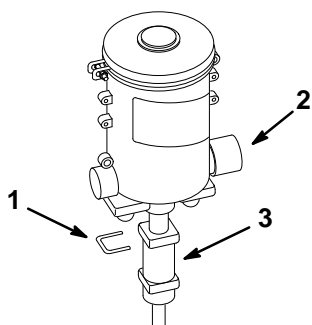

Figure 16
- A. Remove the anti-rotation lock pin (Fig. 16).
- B. Rotate the ratio adjuster sleeve up or down until the top of the sleeve aligns with the line under the desired mixing ratio (Fig. 16).
- C. Align the holes in the ratio adjuster sleeve with the flats on the cylinder, then reinstall the anti-rotation lock pin (Fig. 16).
IMPORTANT: Don't force the ratio adjuster sleeve above the maximum setting of 1% (1:100) or below the minimum setting of 0.2% (1:500) (Fig. 16).
The ratio adjuster sleeve can be moved with water flowing, while the injector is under water pressure or when the bypass knob is in the bypass position (Fig. 16).